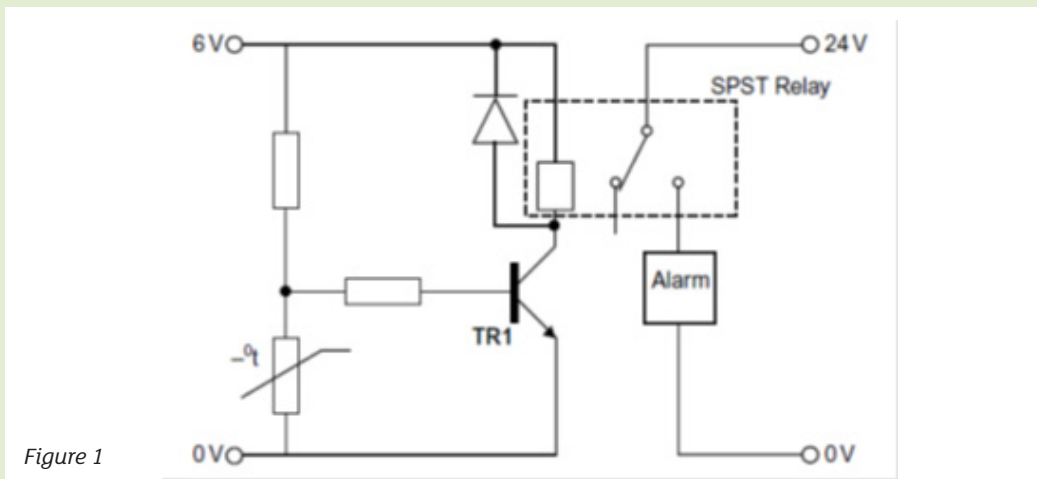

Figure 1
- 2 The following modification has been suggested for a basic temperature alarm circuit shown in Figure 1